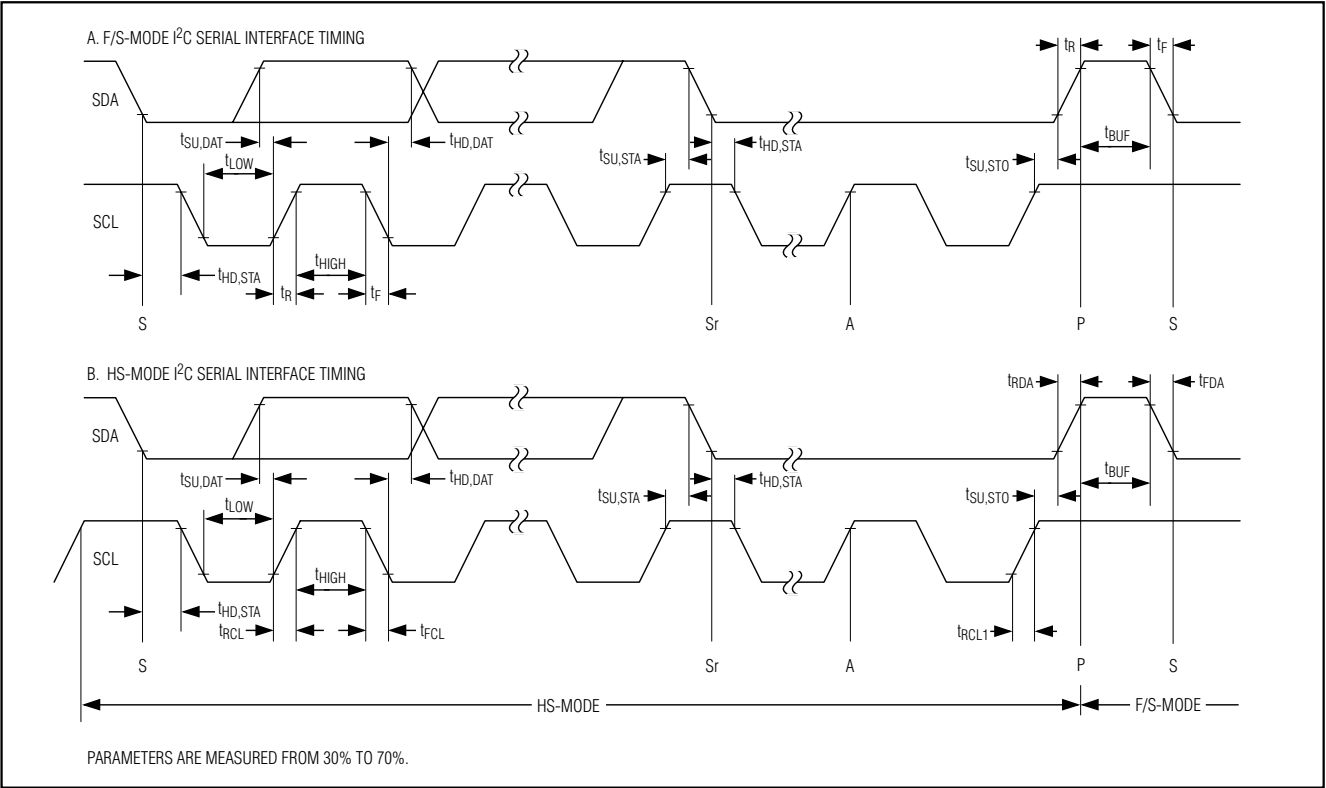

Figure 1. I2C Serial Interface Timing
- Note 9:** A master device must provide a data hold time for SDA (referred to V_{IL} of SCL) in order to bridge the undefined region of SCL's falling edge (see Figure 1).